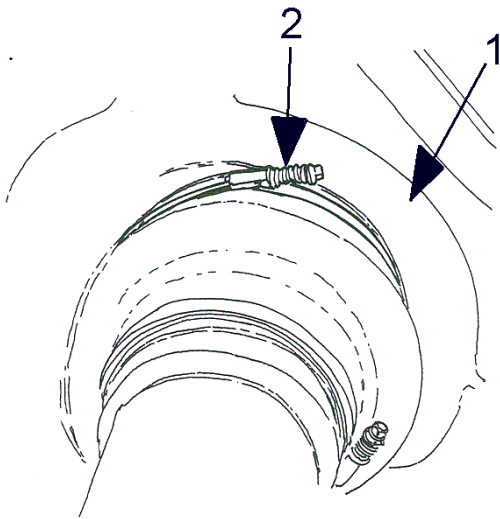

Figure 2 Replace Hose Clamp
1. Inspect the hose clamp closest to the air cleaner for the type shown in Figure 2. If the hose clamp type agrees with Figure 2, continue with this procedure. If the hose clamp is **not** a spring loaded type, this procedure is **not required**.
2. Remove the spring loaded hose clamp, adjacent to the air cleaner, by unscrewing the hex bolt enough to separate the metal band (Figure 2).